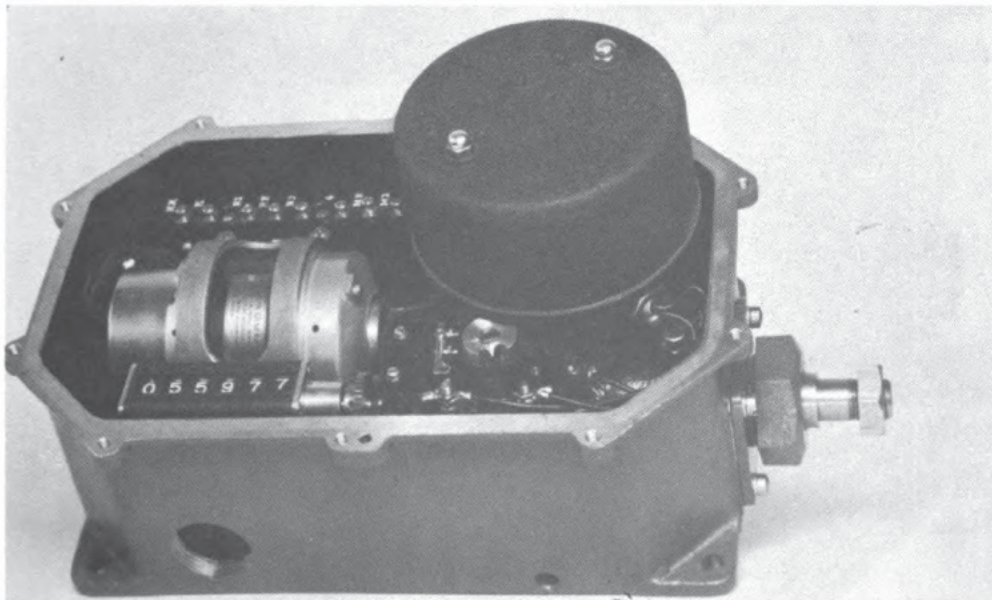

Figure 293. — Shaft transmitter (cover removed) with vertically-mounted magneto and counter.
Many vessels today use the electromechanical type revolution counter, consisting of an electrically operated counter mounted separately or in the same dial case with a speed indicator. These counters have self-synchronous rotary transmitters and motors which are energized from the ship's 110 volt 60 cycle electrical supply. They consist of (1) a propeller shaft transmitter (see figure 293) with a magneto (2) (a permanent magnet